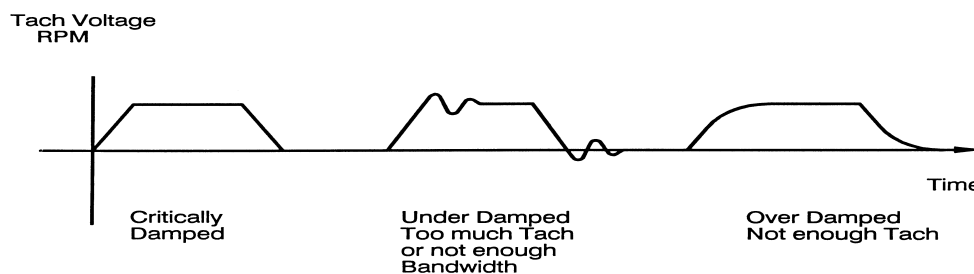

Figure 5.4
5. Observe the tachometer voltage with an oscilloscope while applying and removing the DC input signal. You will observe one of three possible waveforms; Critically Damped, Under Damped or Over Damped (see figure 5.4).